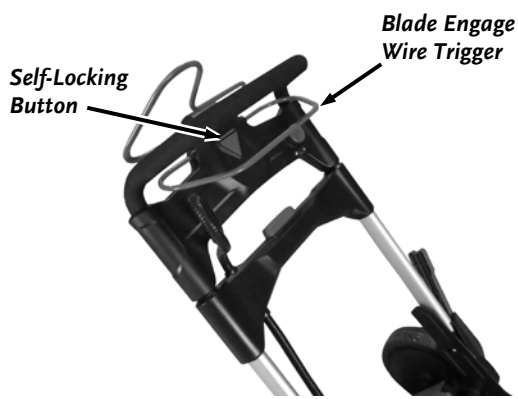

Figure 15
1. Hold the Self-Locking Button down with one hand as you pull the Blade Engage Wire Trigger to the Handlebar with the other hand (**Figure 15**).
1. Release the Blade Engage Wire Trigger to stop the Motor/Blade (**Figure 15**).